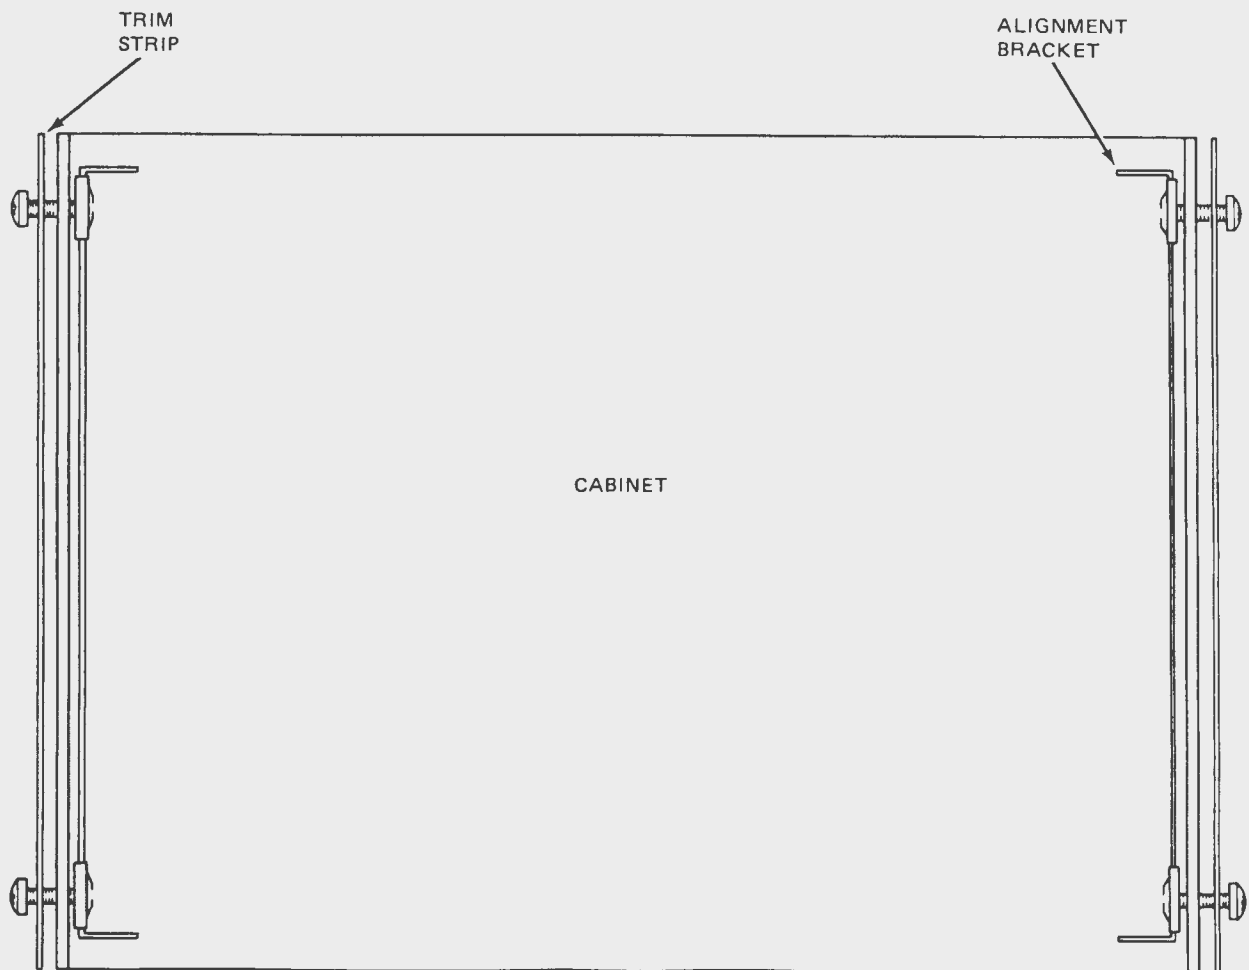

Fig. 18. Mounting the trim strips and the alignment brackets on the cabinet bottom.
(12) Next, locate two of the black Phillips-head 8-32 screws. Put the screws through the two holes on one side of the black trim strip, and through the holes in the cabinet half on which you mounted the feet. Then screw them into the Tinnerman nuts on the cabinet aligning brackets as shown in Fig. 18. Do *not* tighten the screws. Do the same thing with the second cabinet trim strip and alignment bracket on the other side of the cabinet bottom ()
(13) Now carefully lift the signal tracer and lower it inside the cabinet bottom so that the alignment brackets are on the inside of the front and back panels ()